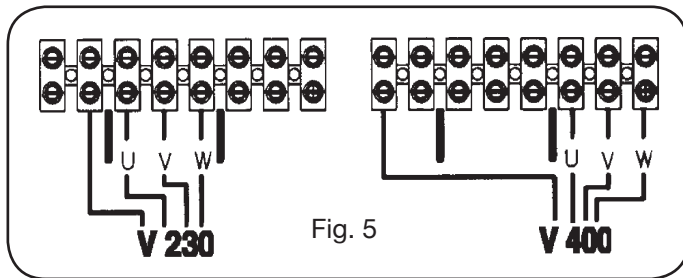

Fig. 5
- To change the supply voltage, remove the right side panel and arrange the voltage change terminal board connections as shown in the figure 5.